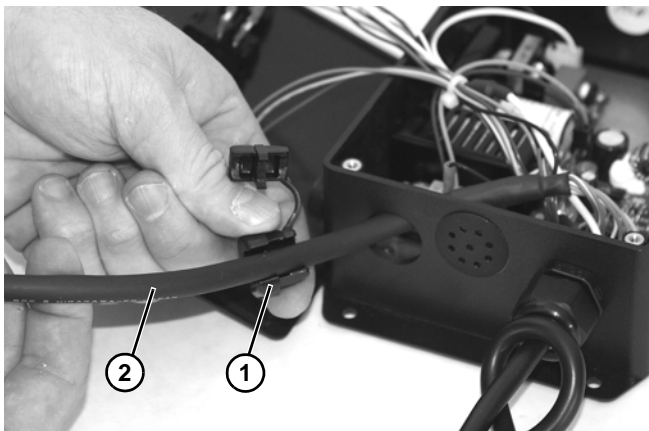

Figure 26
4. Remove cord retainer (**Figure 26, item 1**) from cord (**Figure 26, item 2**).